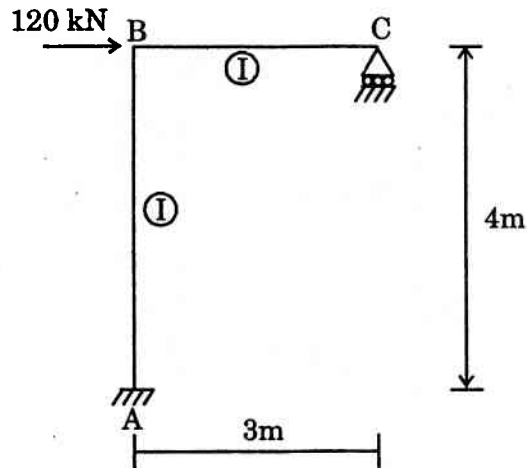

Fig. 4
4. Using Kani's method of analysis, solve the problem shown in figure 4.